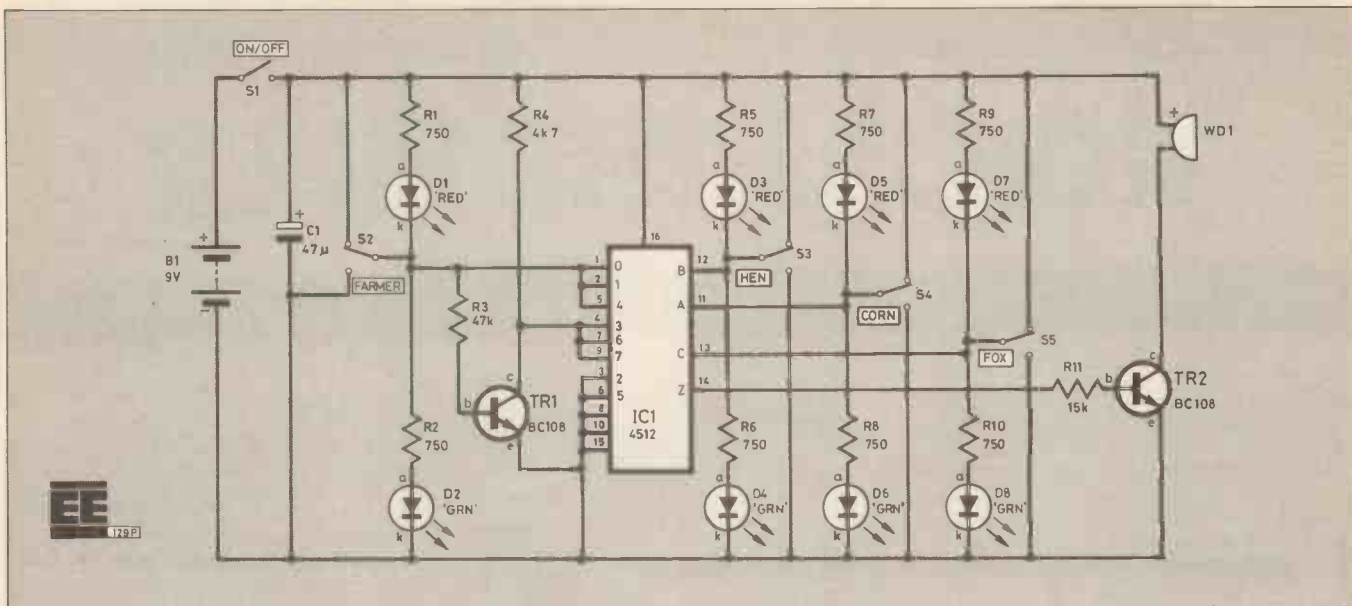

Fig. 3. Circuit diagram of the electronic game "Across the River".
For the 8-bit data selector, it is simply necessary to arrange for the *data inputs* to act as the fourth select line. Hence when A, B and C are all 0, data input 0 is routed to the output (Z): the logic level at data input 0 needs to be 0 when the farmer is on the first side of the river (F = 0) and 1 when he is on the other side (F = 1). This is achieved by switch S2, as shown in Fig. 3. The process continues similarly for the other seven possible combinations
The complete circuit diagram for the game is shown in Fig. 3. IC1 is a CMOS integrated circuit, the 4512 8-bit data selector. The s.p.d.t. switches, S3, S4, and S5, represent the hen, the corn, and the fox, and each can be switched to logic 1 or logic 0, thereby providing the select inputs required by the data selector.